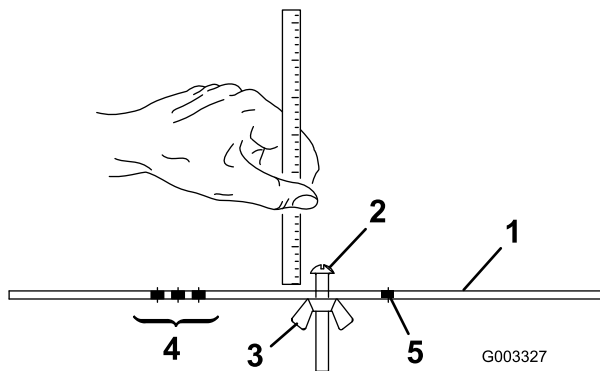

Figure 16
2. Loosen nut on gauge bar (Figure 16) and set adjusting screw to desired height-of-cut. Distance between bottom of screw head and face of bar is height-of-cut.